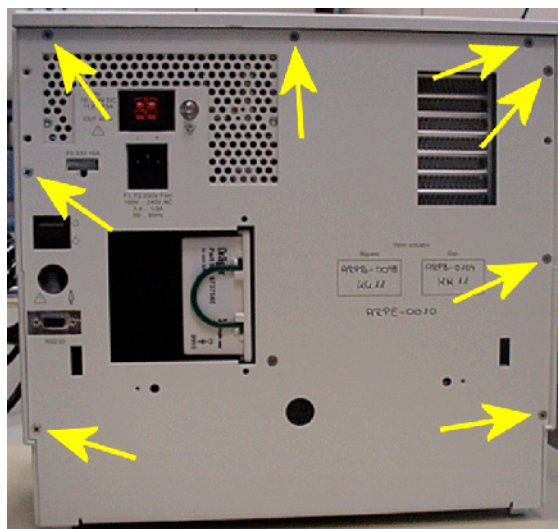

Figure 9 Rear panel fixing screws
6. Remove the screws from the rear panel (Figure 9).